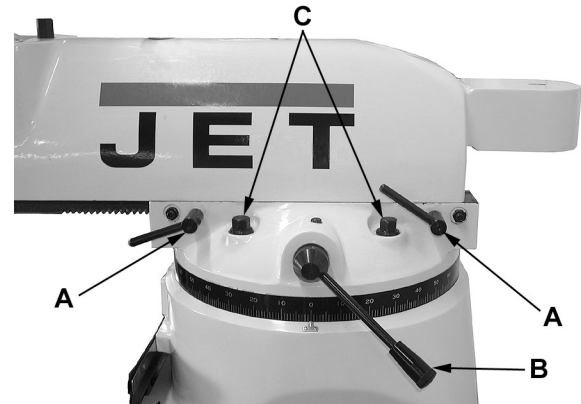

Figure 11: Ram positioning
1. Loosen two bolts (A, Figure 11) that lock ram to its ways.
2. Turn lever (B, Figure 11) to move ram on its ways.
3. When desired position is reached, lock bolts (A, Figure 11) securely.
1. Loosen four turret lock bolts (C, Figure 11). One-half (1/2) turn should be sufficient to allow turret to move.